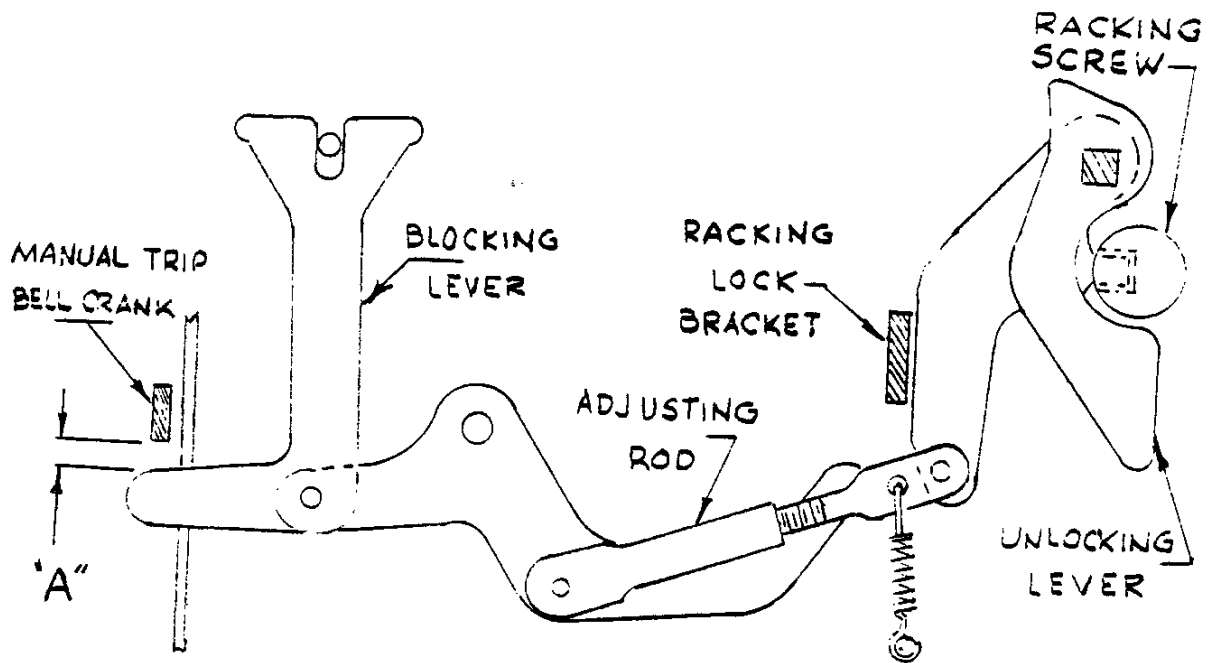

FIGURE G-1
12. With the breaker closed, the racking lock bracket (Figure G-1) shall protrude through the front of the racking mechanism and prevent rotation of the unlocking lever, thus making it impossible to rack the breaker while in the "Closed" position.
14. The trip free racking adjustment is made by lengthening or shortening the adjusting rod (Figure G-1) so that there is a minimum of 1/8" gap at Point "A" (between manual trip bell crank and blocking lever). Breaker should be closed when making this adjustment. The maximum adjustment at Point "A" should not exceed 3/16".